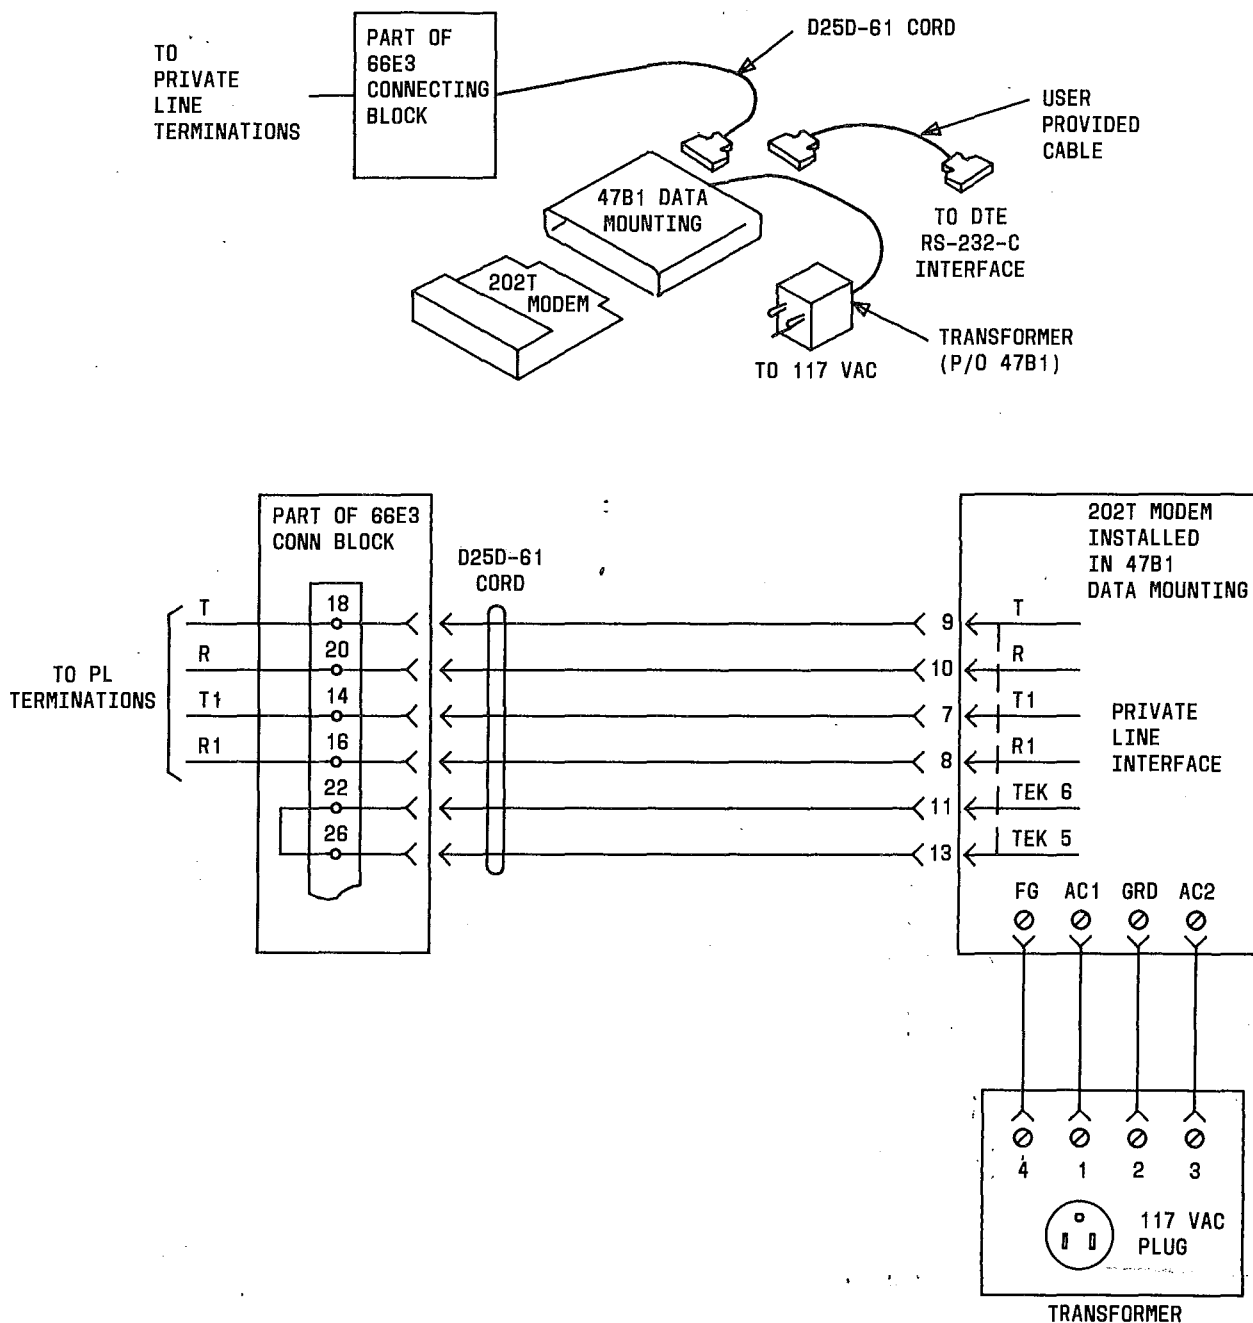

Figure 8. 4-Wire Modem Connected to Locally Engineered Private Line Termination
1. Verify that all parts required are available as shown in Figure 8.